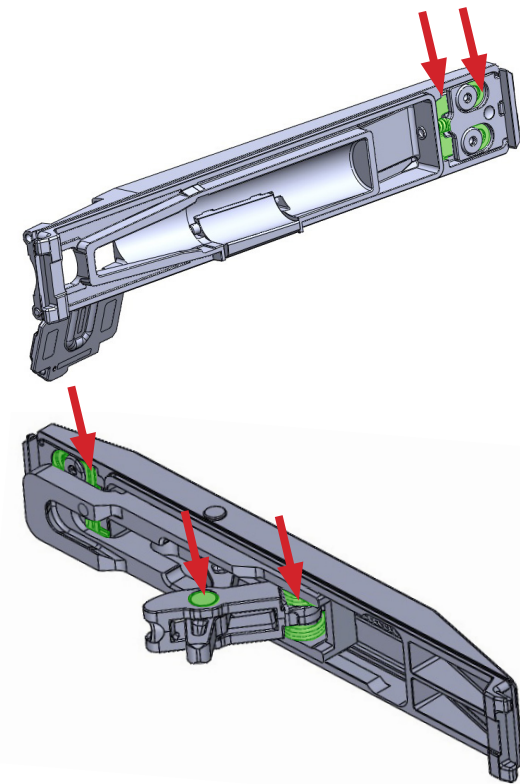

Fig. f-1
4. Apply CLP to both panels release tabs, and to the ejection panel actuating joints. (Fig. f-1)